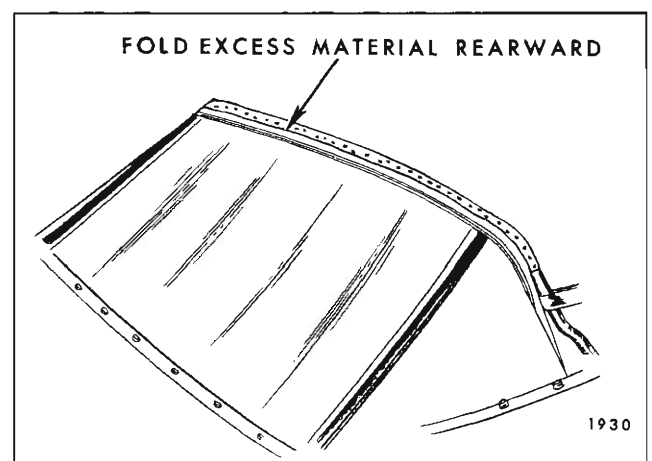

Fig. 5-I-48—Back Curtain Installed
11. Working from body center progressively out-board to right and left sides, tack back curtain upper valance to rear bow. Make sure all fullness has been drawn from back curtain assembly. Fold excess back curtain upper valance material rearward and tack to rear bow. (Fig. 5I48).
13. Where required, place reference chalk mark on outer surface of back curtain along pinchweld finishing molding. Detach rear trim stick with attached back curtain assembly from body. Readjust back curtain assembly as required (Fig. 5I49).